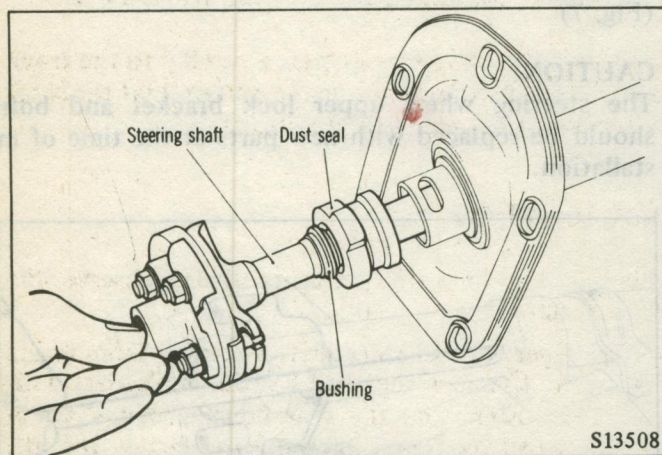

Fig. 9 Removing the Steering Shaft
(2) Remove the steering shaft together with dust seal and bushing from the column tube. (Fig. 9)
(3) Remove the yoke and coupling from the lower end of steering shaft.